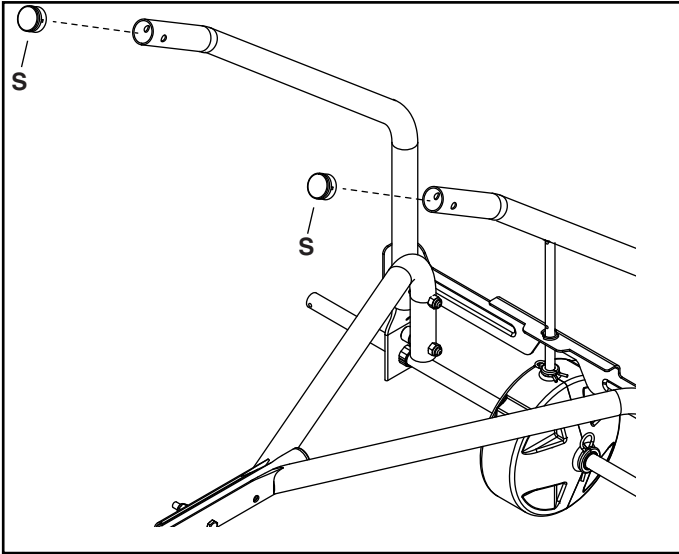

FIGURE 5
STEP 5: (SEE FIGURE 5)
- Insert plugs (S) into the ends of the hopper support tubes (5).